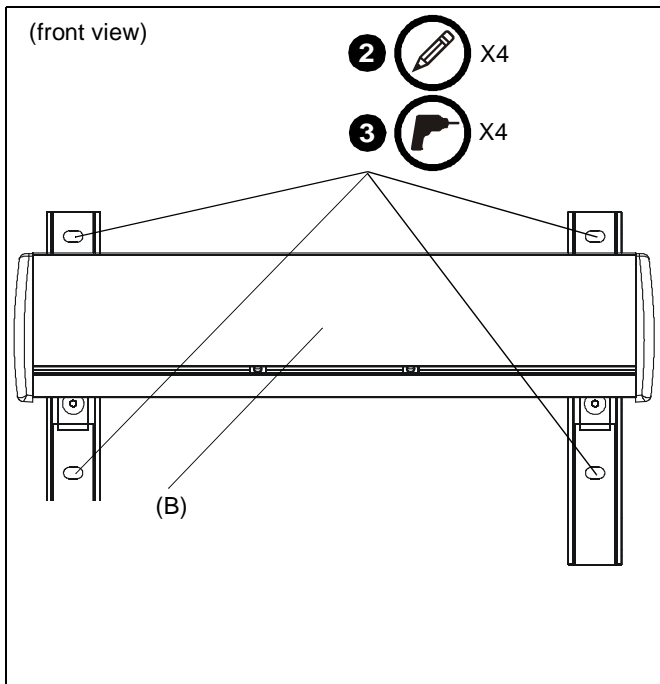

Figure 1
2. Using mounting bracket (B) as a template, mark four holes at the holes in bracket. (See Figure 1)
3. Drill four 13/32" holes at marked locations in wall. (See Figure 1)